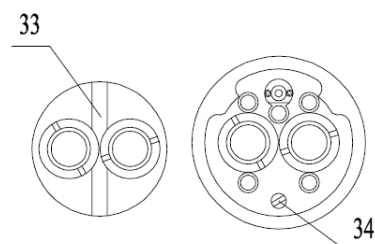

Figure 3
- ① When you assemble, make sure that the bottom long trough 33 of trinocular beam splitter 11 dead against the orientation bolt 34 of main body (Figure 3)3, similarly the connection between binocular head 10 and trinocular beam splitter 11 or main body 3 has the same configuration. Then twist bolt 17 by hexagon ring spanner. Then twist bolt by hexagon spanner.
(1) Diopter adjustment and focus (Figure 1, Figure 3)
- F. Twist the zoom control knob 9, make the objective magnification to the maximal. If the image is not clear, repeat step (C) to (E). That needs diopter adjustment more exactly.